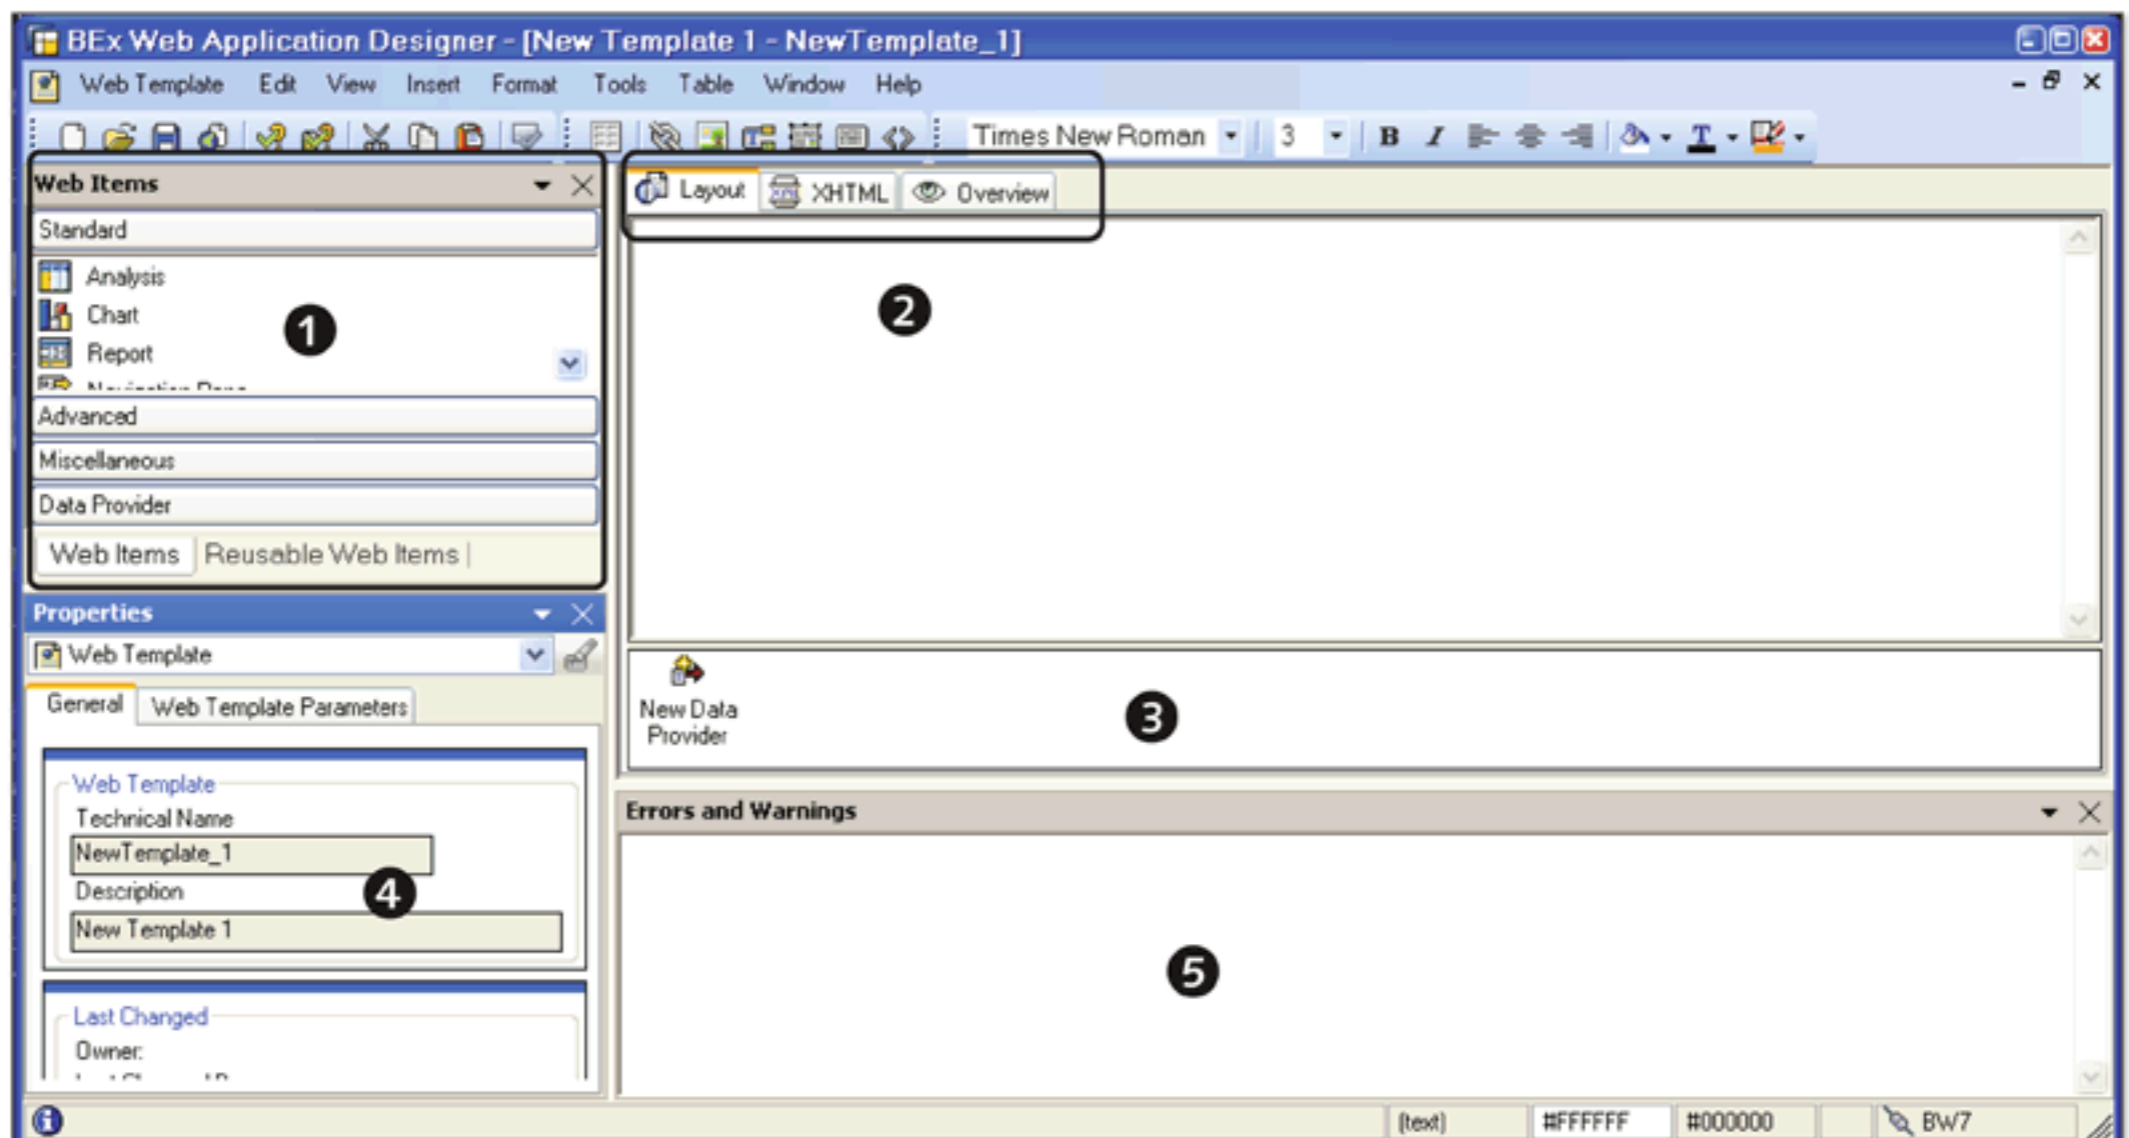

Figure 11.3 BEx Web Application Designer Screen Layout
The web template screen in BEx Web Application Designer consists of different screen areas, as shown in Figure 11.3.
To facilitate easy and faster development of web applications, BEx Web Application Designer provides a bunch of prebuilt components called *web items*, which can be used directly in the web application. The web items are available in the WEB ITEMS area, as shown in ❶ of Figure 11.3. Each web item performs some design function or is linked to a data provider to perform some data function, such as displaying the data in tabular format, displaying the data in graphical format, and so on. Available web items are classified into three web item groups:
The layout of the web template is displayed under the LAYOUT tab of this area (see ❷ of Figure 11.3). You can add a web item to the web template layout using simple drag and drop from the WEB ITEMS area. The XHTML tab page displays the XHTML document, which is generated based on the web items added to the web template. You can add your own XHTML code on this tab for additional features or logic. The OVERVIEW tab page provides an overview of all of the components
The section shown in ③ of Figure 11.3 is used to manage the data providers used in a web template. *Data providers* are those elements that act as a source of data for different web items. Queries defined in BEx Query Designer, query views, query filters, and SAP NetWeaver BW InfoProviders can be used as a data provider in a web template. You can define a new data provider or change an existing data provider in this area. This also corresponds to the DATA PROVIDER section that is visible in WEB ITEMS area.
All of the web items and the web template itself have properties that control their behavior in the web application. These properties are maintained in the PROPERTIES pane shown in ④ of Figure 11.3. For the web items based on a data provider, the data provider assignment is also maintained in the GENERAL tab of the PROPERTIES pane.
This section on the screen displays error messages or warnings if there are any discrepancies in the definition of the web template (⑤ of Figure 11.3).